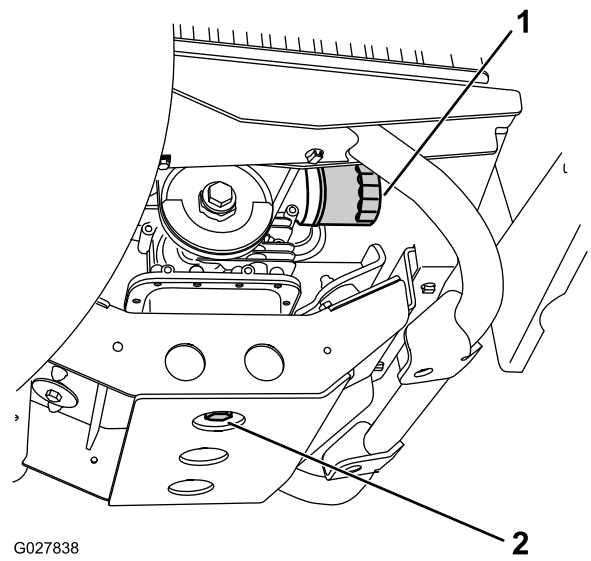

Figure 31
7. Place a drain pan under the drain plug (Figure 31).
8. Remove the drain plug (Figure 31).
9. Install the drain plug and seal (Figure 31) and torque the plug to 45 to 53 N·m (33 to 39 ft-lb).
2. Remove the existing oil filter (Figure 31).
4. Thread the new filter onto the filter adapter until the gasket contacts the mounting plate, then tighten the filter an additional 1/2 to 3/4 turn (Figure 31).